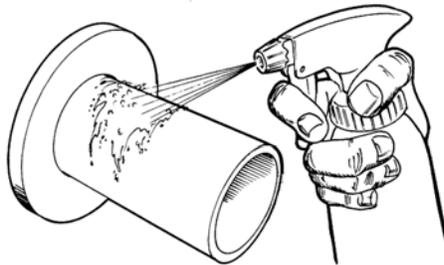

Figure TNK-1
**NOTE:** When inserting any piping into the adapt-a-flex tank bushings, a mixture of soap and water should be applied to assist in installing the piping (Fig. Tnk.1). Use the supplied 5" x 1-1/2" PVC pipe sections in the loose parts box for the drains.